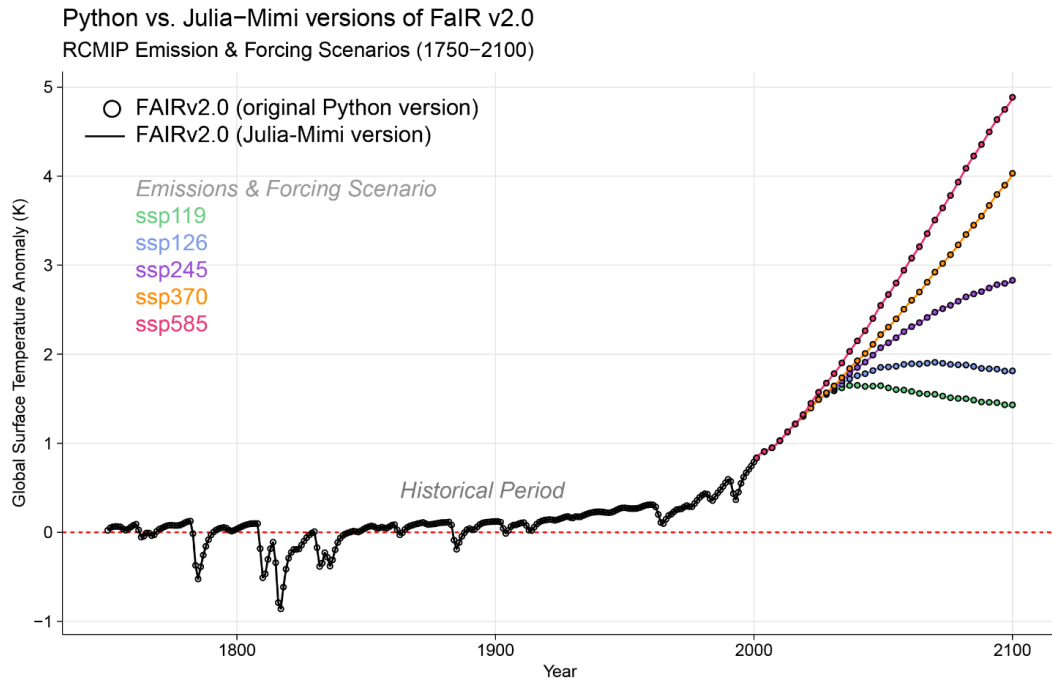

Figure 2. Unit test for Q3.2.1
- Recreate the figure shown in this model's README: <https://github.com/anthofflab/MimiFAIRv2.jl> (also recreated in Figure 2).